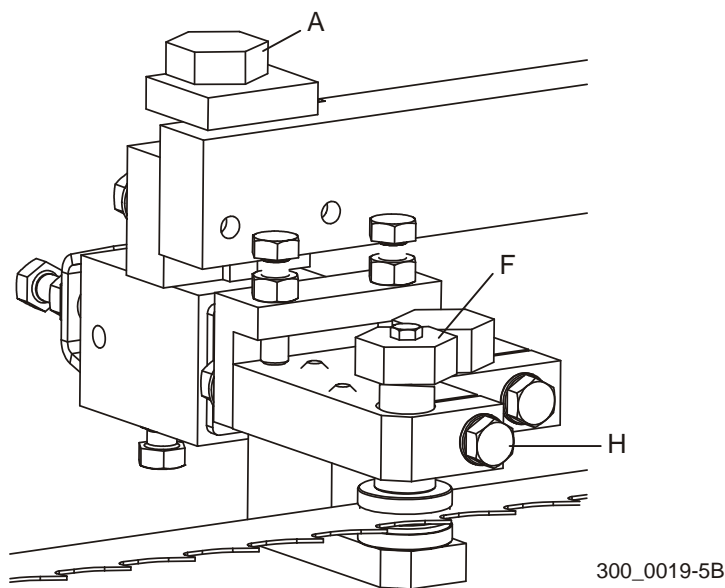

FIG. 7-43
See Figure 7-43. Use bolt (A) to adjust each blade guide assembly down, then back up so there is a slight gap between the bottom guide disks and the blade. Loosen clamp bolt (H) and turn bolt (F) clockwise to adjust the top disk down until the blade is firmly clamped between the guide disks.